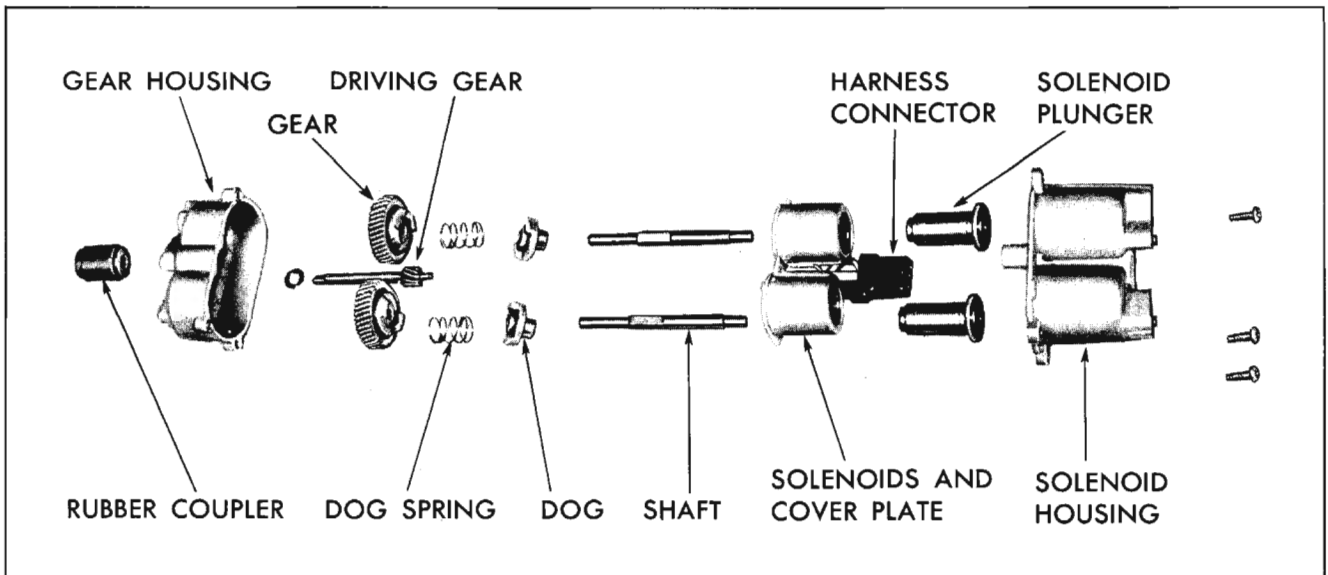

Fig. 16-319 Seat Transmission
2. Remove screws securing gear and solenoid housings together; then, carefully separate housings and remove component parts of transmission assembly. (Fig. 16-319)